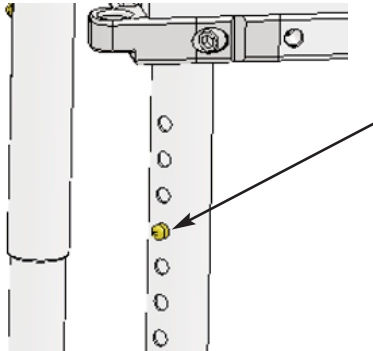

Figure 23
**A Leg Height Adjustment:** When making height adjustments to any of the legs, make sure that the brass buttons are fully engaged into the outer legs. If pushed too hard the button could become stuck inside the inner leg (Contact Nuprodx, Inc. if this occurs). Leg height adjustment should only be made before transferring the user into the chair (Refer to Figure 23).